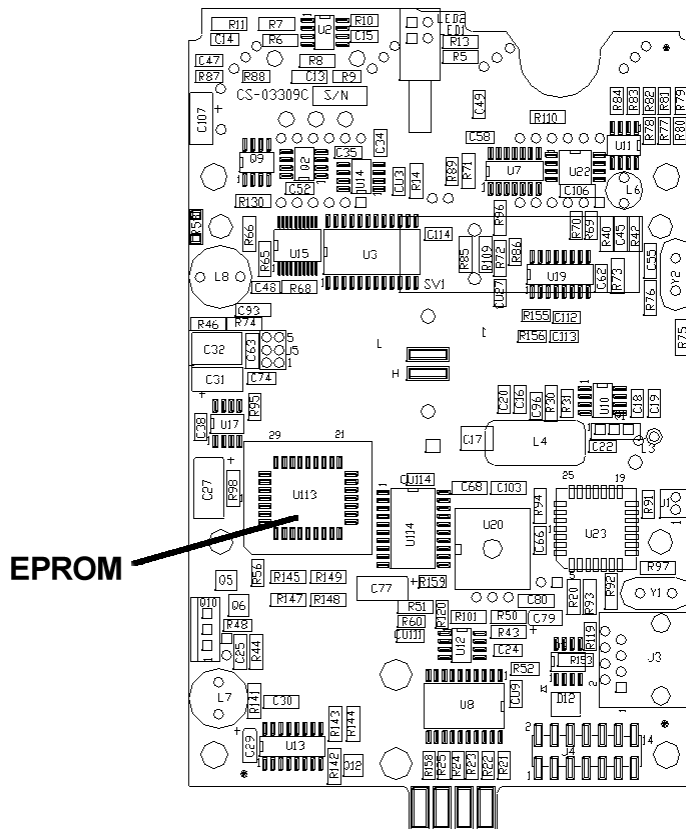

Figure 7-12: Replacing EPROM
2. Remove the EPROM from its socket (on the CO2 board) using an IC extractor, refer to Figure 7-12.